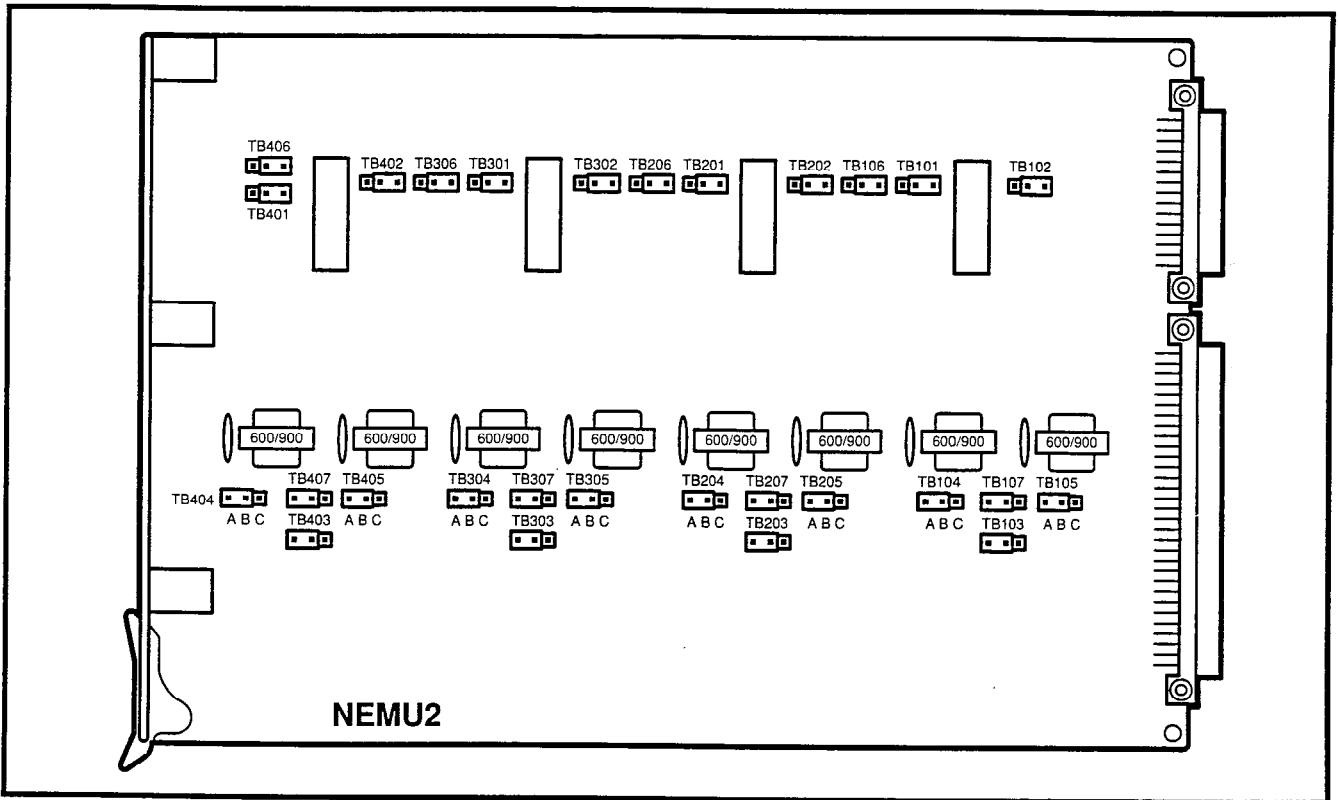

FIGURE 4-18—NEMU STRAPPING
3.72 There are four circuits on the NEMU PCB, and each circuit has its own set of straps (Figure 4-18). On a circuit-by-circuit basis, strap the PCB as follows: